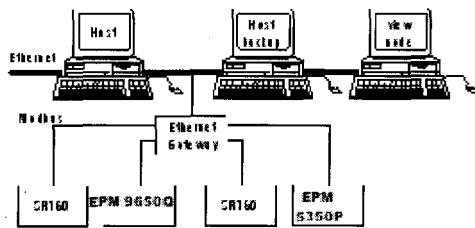

Figure 2a. Substation Ethernet and Modbus network.
**NOTE:** Some types of IEDs must be wired on dedicated private serial network segments, one IED per serial Modbus line. Figure 2a illustrates this configuration. The IEDs that require dedicated Modbus segments are the EPM 9650Q, EPM 3720, ML PQM, and EPM 7330.